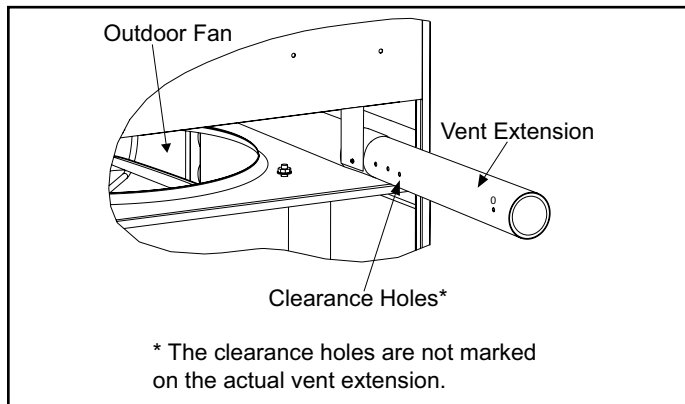

Figure 6. Positioning Vent Pipe Extension
- Five holes have been drilled into the vent extension (see Figure 6). Four of those holes are provided so that the vent can be extended the necessary length required for the installation. The wall sleeve that is
installed determines which of these clearance holes should be used. Using Table 3 and Figure 6, determine which clearance hole should be used to position the vent extension properly. Slide the vent extension outward and line up the correct clearance hole on the vent extension with the hole in the vent pipe and the hole in the mounting bracket.